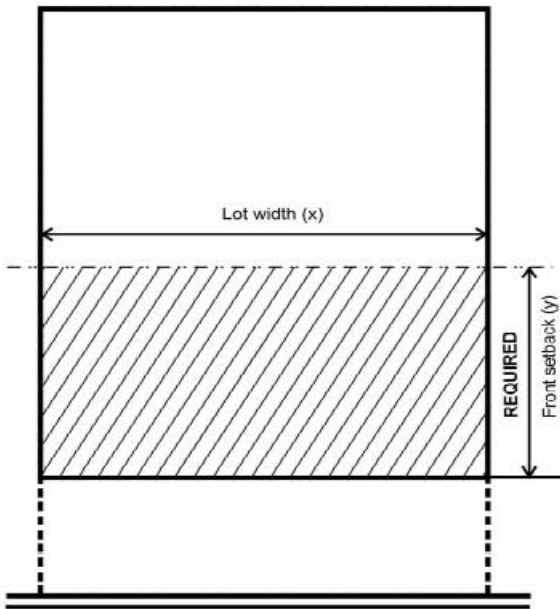

Figure 6
E. IMPERVIOUS SURFACE RATIO Impervious surface coverage is measured in square feet and as a percentage of lot area. The maximum impervious surface ratio allowed within the required front yard setback on a standard lot is forty-five (45) percent. The maximum surface ratio allowed within the required front and street side yard setback on corner lots is twenty-five (25) percent. Impervious surface calculations shall include any patios or walkways that are not included on the proposed or revised driveway. (See figures 6 & 7.)